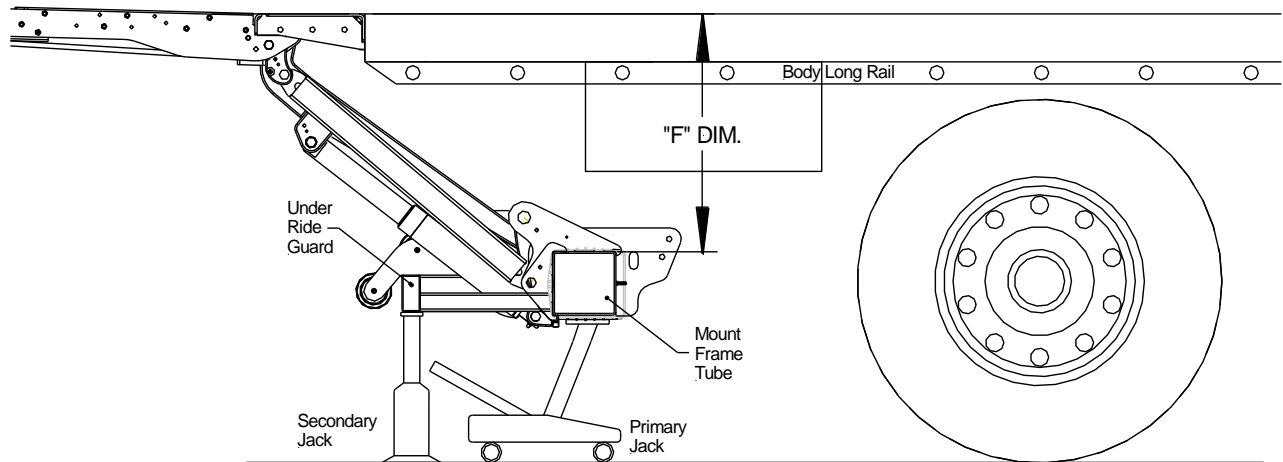

Fig.32
3. **Set "F" Dimension:** "F" Dimension should be determined from Section 7 of this manual. Use floor jack or equivalent to position the frame assembly up to the required "F" dimension, **Fig.32**. Use a second jack to level out the under ride guard, if necessary. Check for squareness vertically and horizontally. 12V power supply may be required to release pressure on lift cylinder valves, if power is required continue to the Electrical Installation in Section 10.